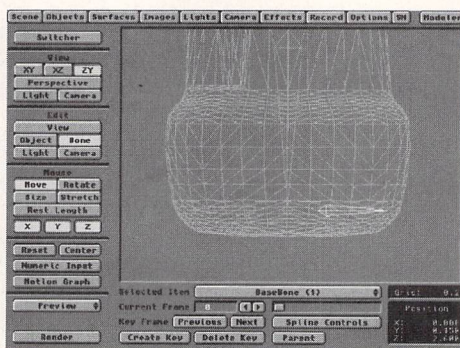

Figure 1: The first base Bone in place as an anchor.
- Return to Layout. You'll see what looks like a squared necktie. That's your bone (Figure 1). This Bone has no effect on your object yet. Select **Continue** and return to the Layout window.